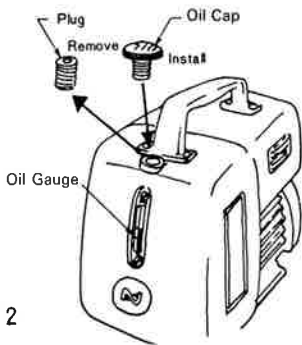

Fig. 2
- (4) Remove the plug on the Pump oiling port and install the oil cap (supplied with the machine). **Negligence of this step will cause pump overheating and can lead to an accident.** (See Fig. 2.)
- (5) Check and insure that the oil level is at least above the center of oil gauge. **If the level is low, refill with Nitto Genuine Oil (option).** (See Fig. 2.)